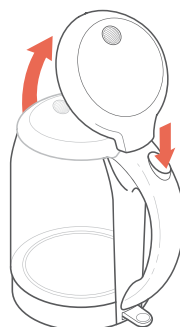

Figure 1.1
3. Press the **Lid Release Button** to open the lid. *[Figure 1.1]*